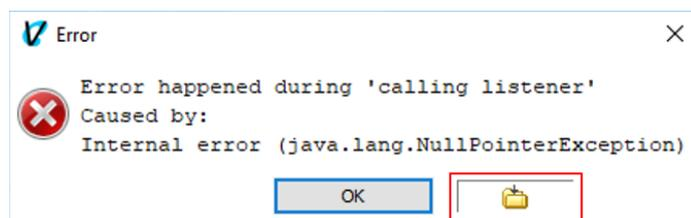

Figure 79 If an unexpected error occurs, the yellow folder icon in the error message dialog can be used to save a debug file
- Option 2: Save a debug file from error message dialogs (see Figure 79)